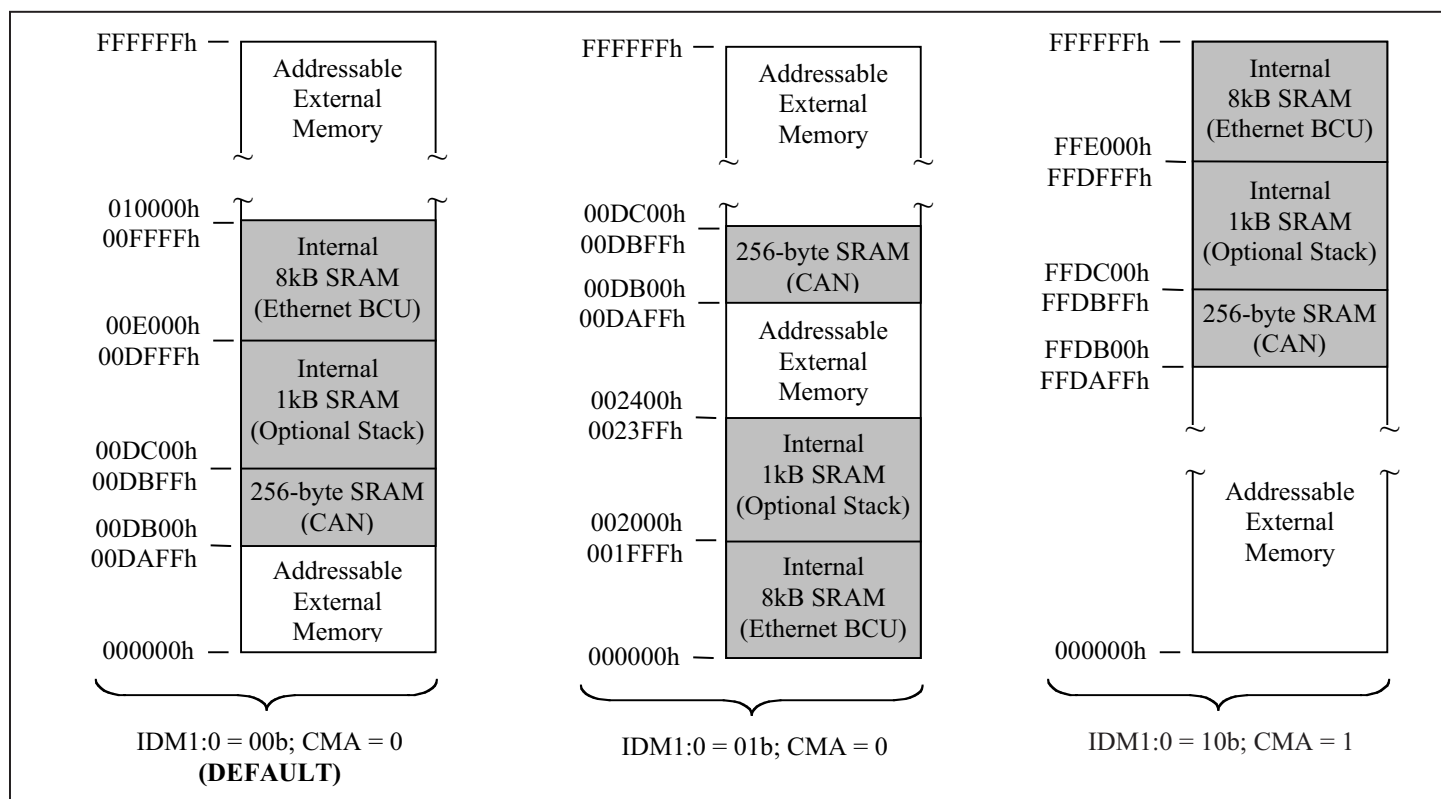

Figure 6-2. Example Data Memory Map Configurations (DS80C400)
The DS80C400 incorporates 9472 bytes of internal SRAM memory, in addition to the standard 256-byte scratchpad memory. This additional on-chip SRAM is logically divided into three memory blocks: a 1kB block usable as data memory and extended stack memory, an 8kB block usable as data memory and Ethernet transmit/receive buffer memory, and a 256-byte block usable as data memory and CAN controller memory. In order for the 1kB internal SRAM to be used as extended stack memory, the stack address mode (SA) bit contained in the ACON register, must be set to 1. The logical address location for each block is determined by the settings of the IDM1, IDM0 bits and the CMA bit, all contained in the MCON (C6h) register. Table 6-1 summarizes the six possible configurations for the three internal SRAMs, while Figure 6-2 illustrates three data memory map possibilities.